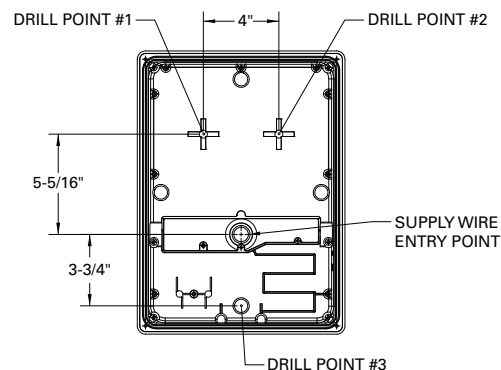

FIG. 3
SURFACE MOUNT [FIG. 3]:
3. Drill through the top side of the casting. See **FIG. 3** for the suggested drill pattern to avoid damage to any internal components to the fixture. Only drill from the inside of the fixture.